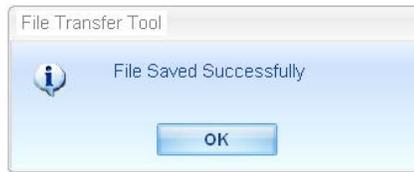

Figure 3-11: Success confirmation dialog
9. When the file transfer completes successfully, a pop-up box, as shown in Figure 3-11 appears to confirm that the transfer was successful. Dismiss this dialog by clicking "OK" and return to the **Home** screen.